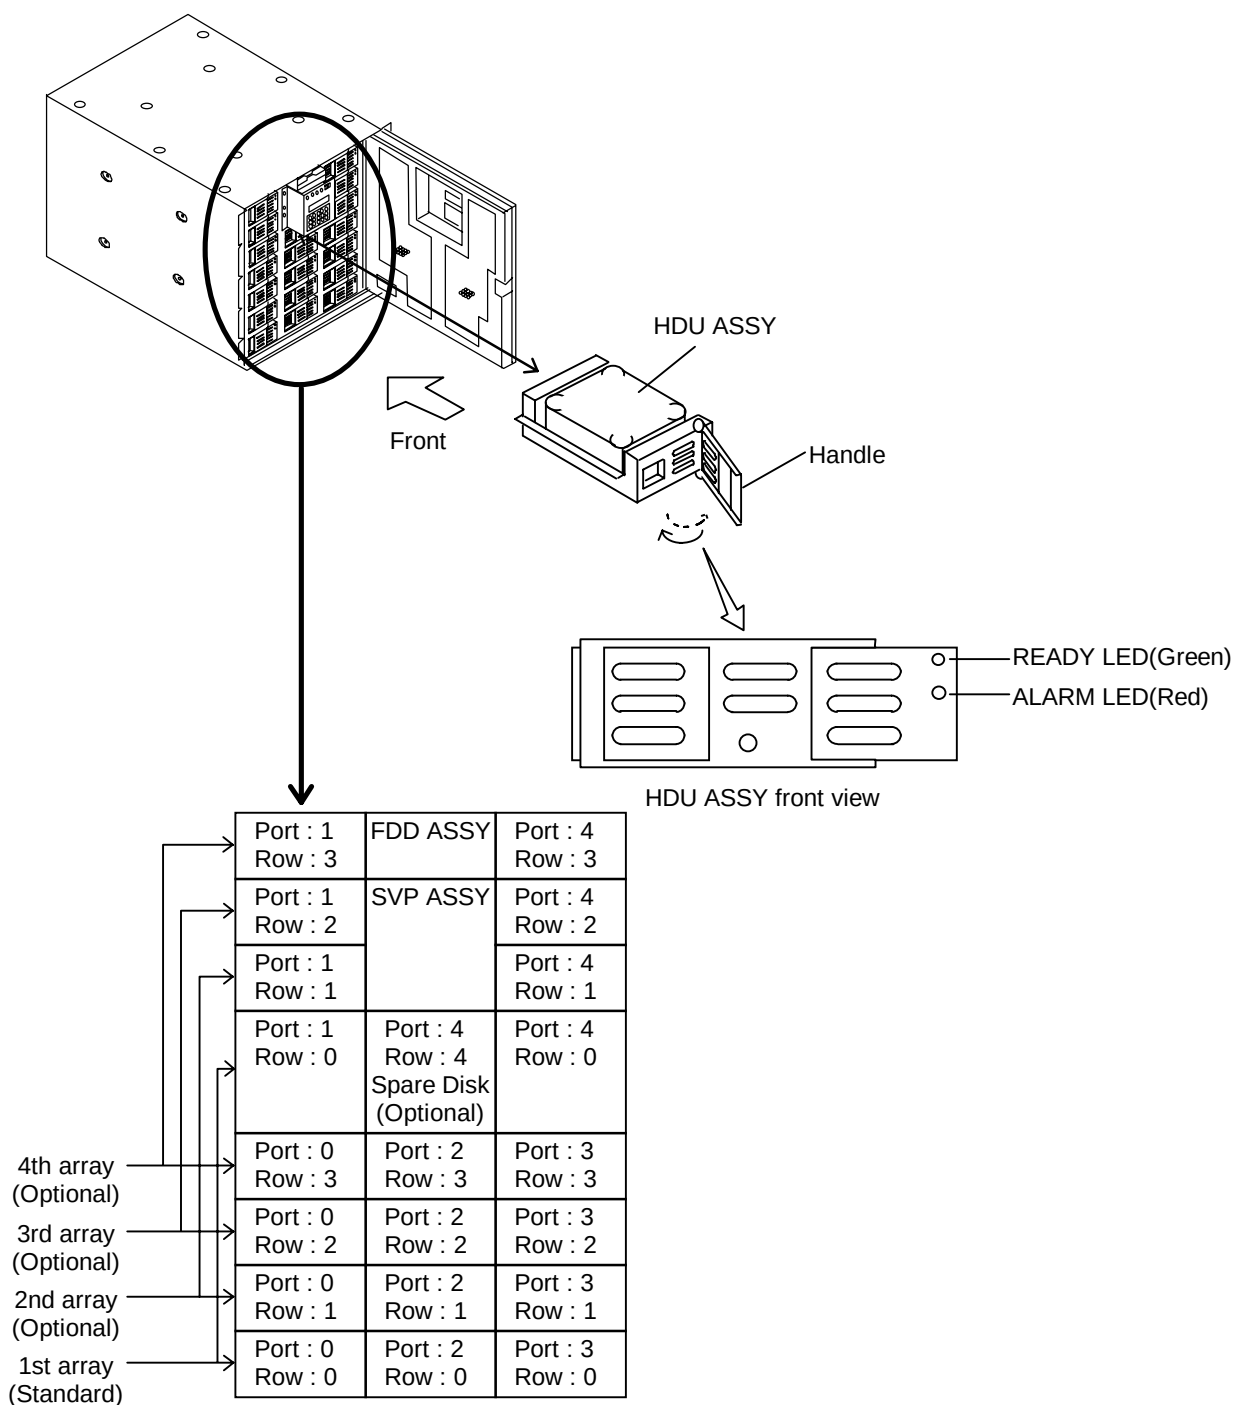

Figure 2.9.1 Installing the HDU ASSY
- (2) Remove the front bezel, open the front panel and rear cover.
(3) Remove the old HDU ASSY and set the new HDU ASSY. (See Figure 2.9.1 in RW-OPTION0240.)
(4) Set the DIP switches 4 and 6 on the CTL ASSY to down.